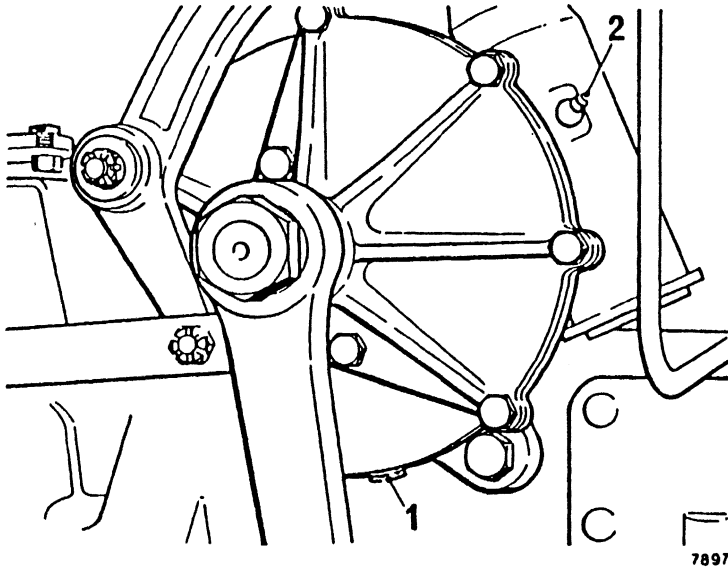

Fig 16 Steering box lubrication points
25. To top-up steering box apply oil gun to nipple (Fig 16(2)) on the box until oil begins to ooze from the hole in the casing at the top of the box.
26. To drain and refill steering box, remove nipple (2) and plug (1) from base of the box and allow all the oil to drain away. Replace plug and refill with correct oil to the level of the lubrication nipple hole. Finally replace the nipple and apply oil gun to the nipple until oil begins to ooze from hole in casing at the top of box.